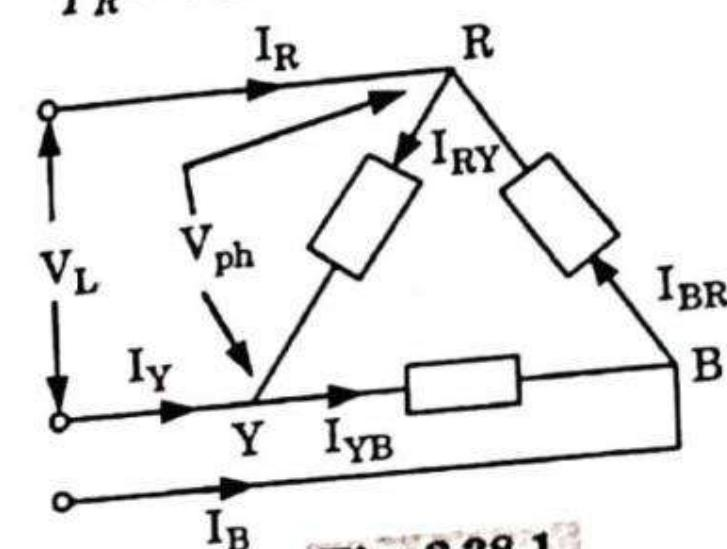

Fig. 2.38.1.
- Consider a balanced delta connected load as shown in Fig. 2.38.1.